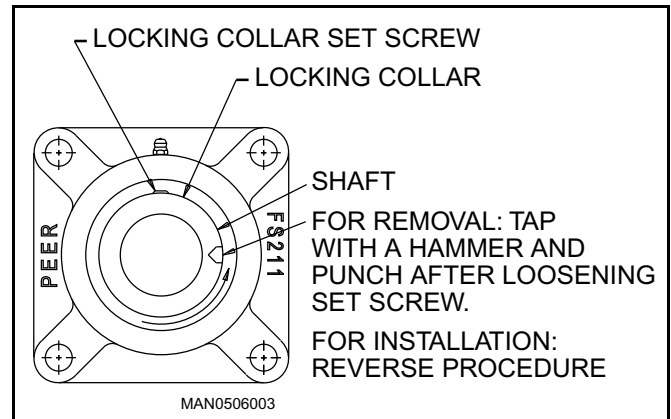

Figure 36. Locking Collar
2. Remove bearing locking collar (see Figure 36).
8. Reinstall bearing locking collar and tighten (see Figure 36).